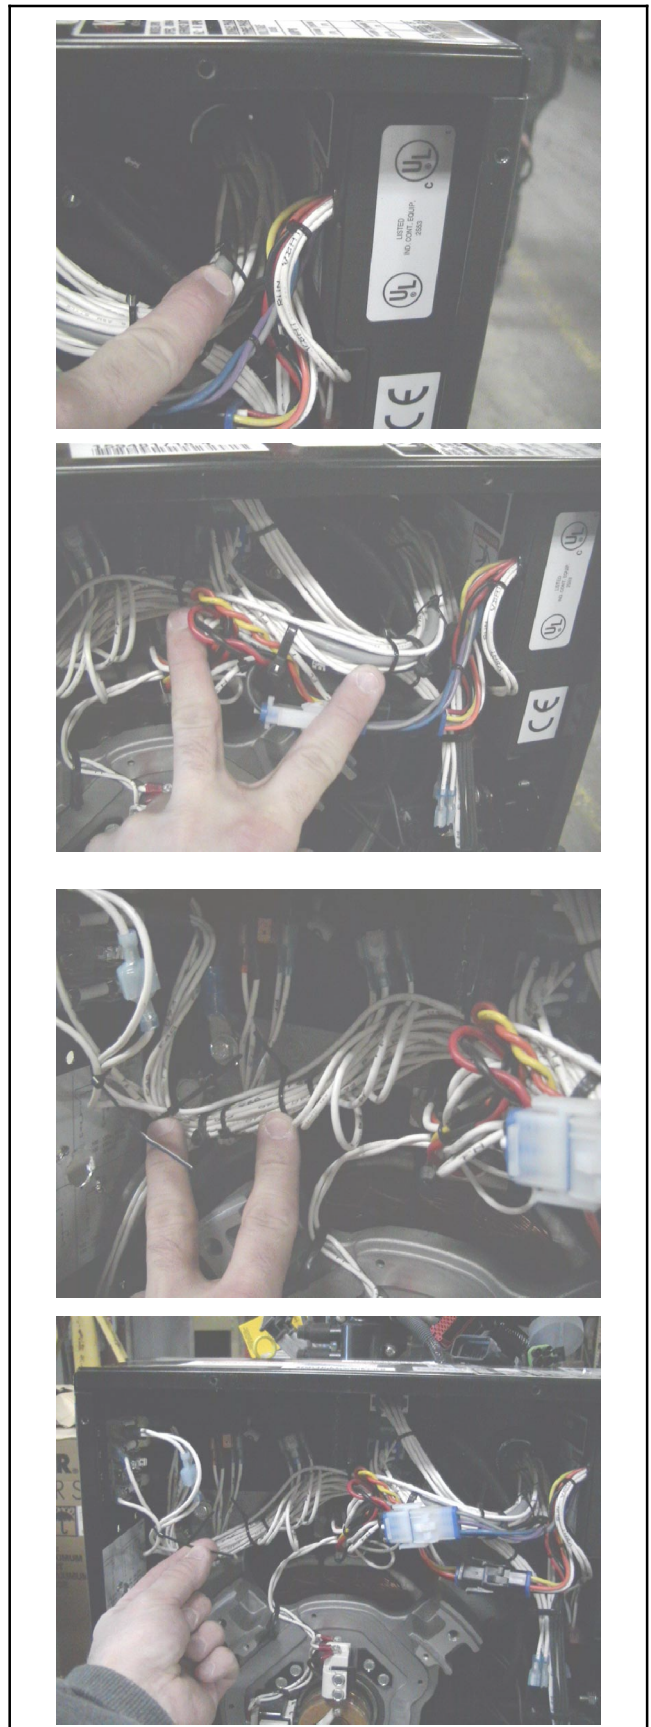

Figure 15 Use Cable Ties as Necessary
15. Use plastic cable ties to secure the wiring harness (GM64331) to the other wires to reduce the risk of damage by rotating parts. See Figure 15.